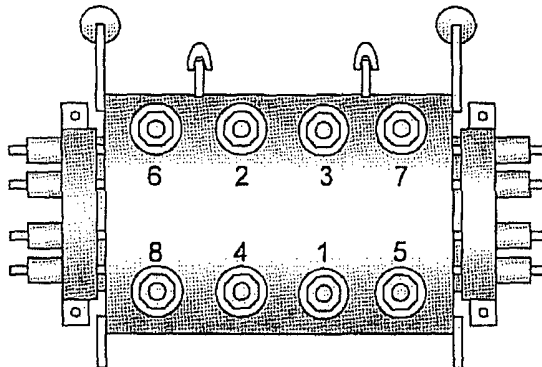

Figure 6 – Stud Tensioner Sequence
- 7.2 On the Diver's notification that all body bolts and nuts are in place, the OIL STATES Representative will release all remaining pressure off of the open/close hydraulic cylinders. The Diver will disconnect the surface supply hose from the cylinders bridle. He will then connect the male Quick Disconnect (Q.D.) on the hose end to the female Quick Disconnect (Q.D.) on the stud tensioner. Refer to Figure 6 for recommended tightening sequence.